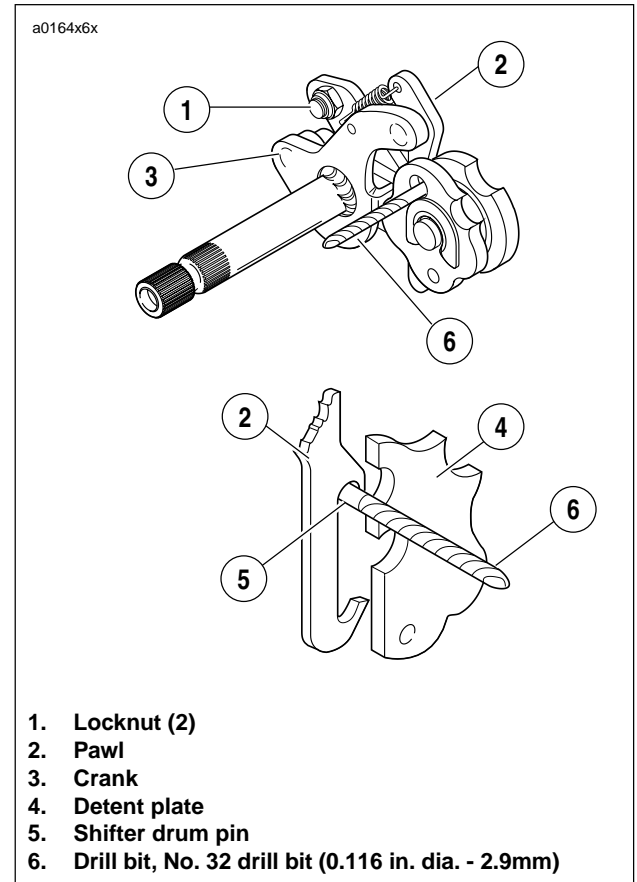

Figure 6-53. Shifter Shaft Assembly Alignment
- See Figure 6-53. Align shifter shaft.
- Place a No. 32 drill bit (0.116 in. dia.) through hole in detent plate (4), and between pawl (2) and drive pin at end of shifter drum shaft.
- Push down top of crank (3) to remove all clearance between pawl and drill bit; this will correctly align pawl to shift drum pins (do not push down with too great a force, as this might cause the shifter drum to rotate).
- With bit in place, tighten shifter shaft assembly bottom locknut (1) first to 90-110 **in-lbs** (10-12 Nm). Then, tighten shifter shaft assembly top locknut (1) to the same torque.